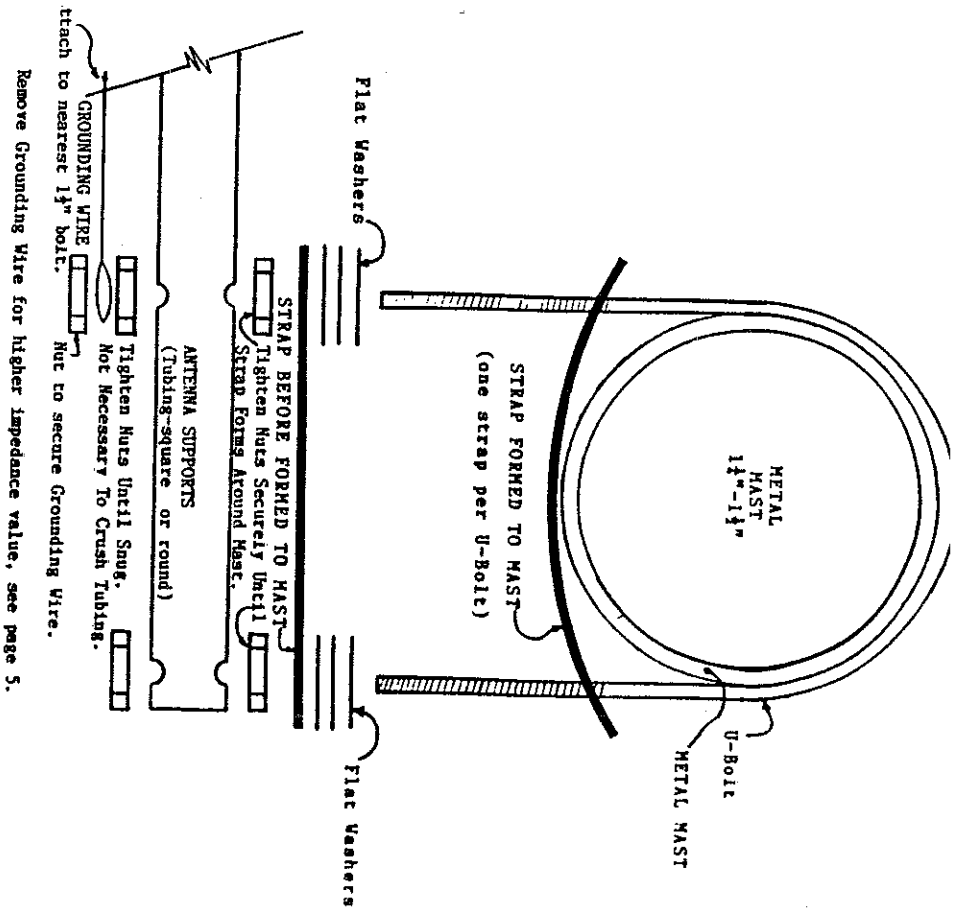

FIG. 6
8. Mount two U-BOLTS on the mast at 20 1/2" apart starting at the bottom of the antenna. See Fig. 6
12. Mount a third U-BOLT to the mast at 76" from the bottom one. See Fig. 6.
1. The Isotron 160C should be mounted as high and in the clear as possible on a metal mast. See Fig. 6 on page 9b for the proper installation of the U-BOLT Assemblies.
For example, if the ISOTRON is mounted on a tower, somewhere near the middle, its resonant frequency and impedance value will be lower than if the antenna is mounted in the clear. By insulating the antenna from the tower, you can increase its feedpoint impedance and raise its resonant frequency. Different locations on the tower will produce different values, and it may be necessary to compensate differences by tuning your ISOTRON. If the feedpoint impedance and resonant frequency become higher than desired, then it is possible to decrease them by connecting a capacitor of about 100pf or less between the antenna and the tower (see Pg. 9b, Fig. 6). Another words the lowest impedance would be directly grounding the antenna to the mast. A point in between can be obtained by the use of a capacitor as described.